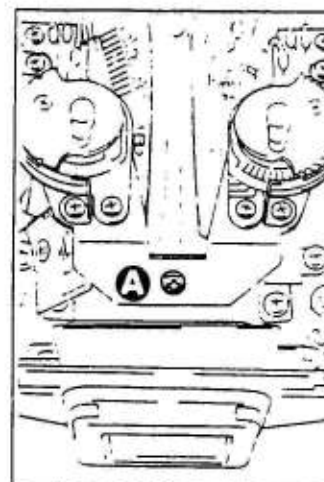

Fig. 3
**Note :** The screw ④ which fasten the dial substrate sometimes pierces the prism and can break it. So, be careful for the length of the screw. (See Fig. 3.)